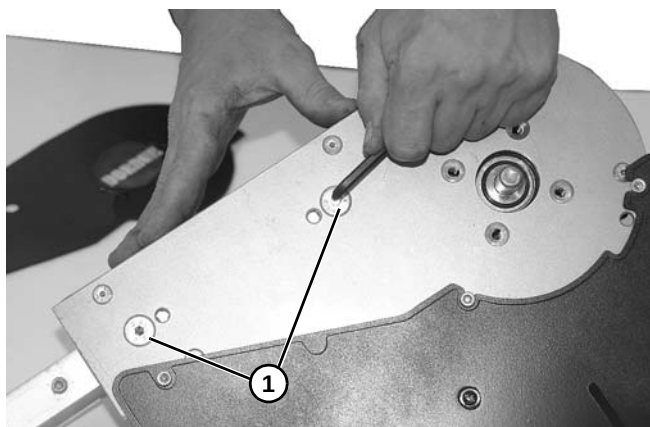

Figure 74
4. Remove two socket head screws (**Figure 74, item 1**) on side of drive spindle.